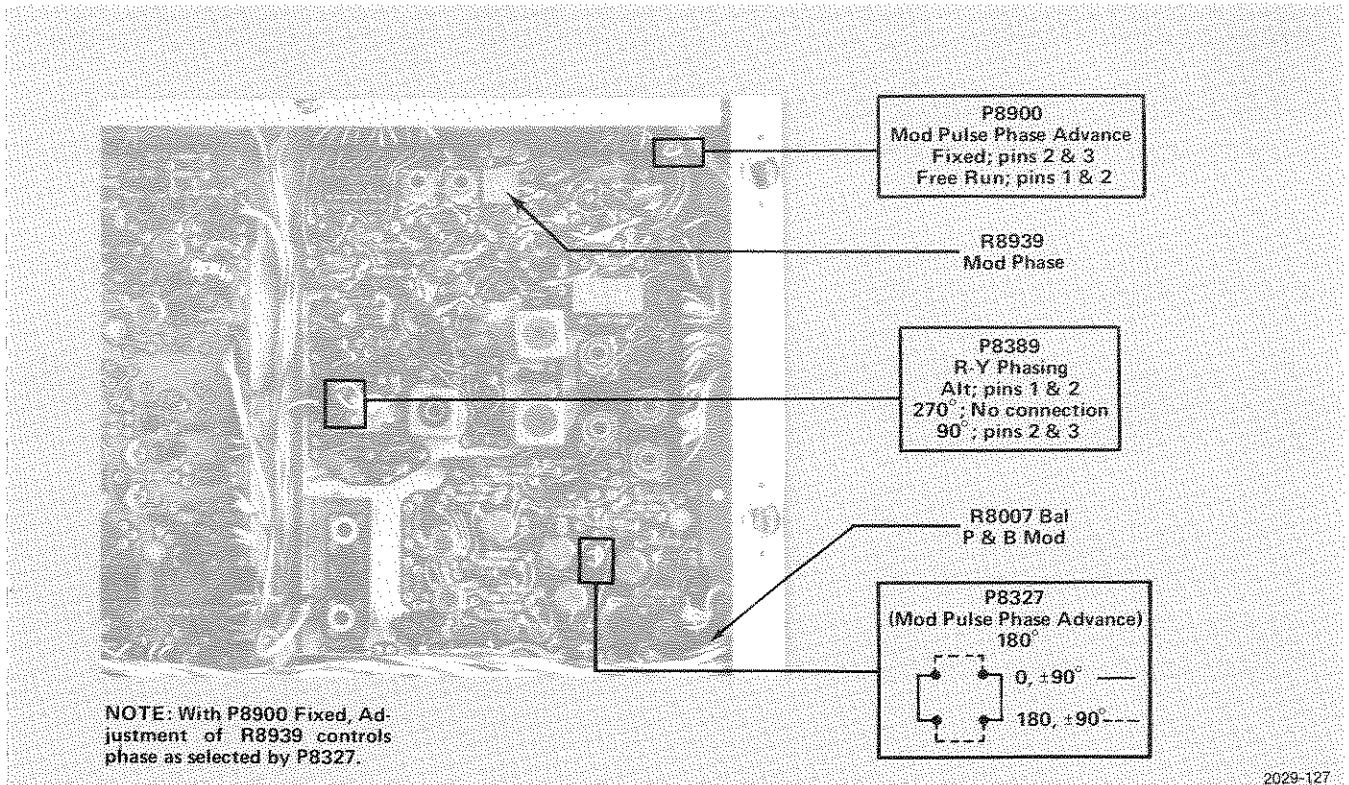
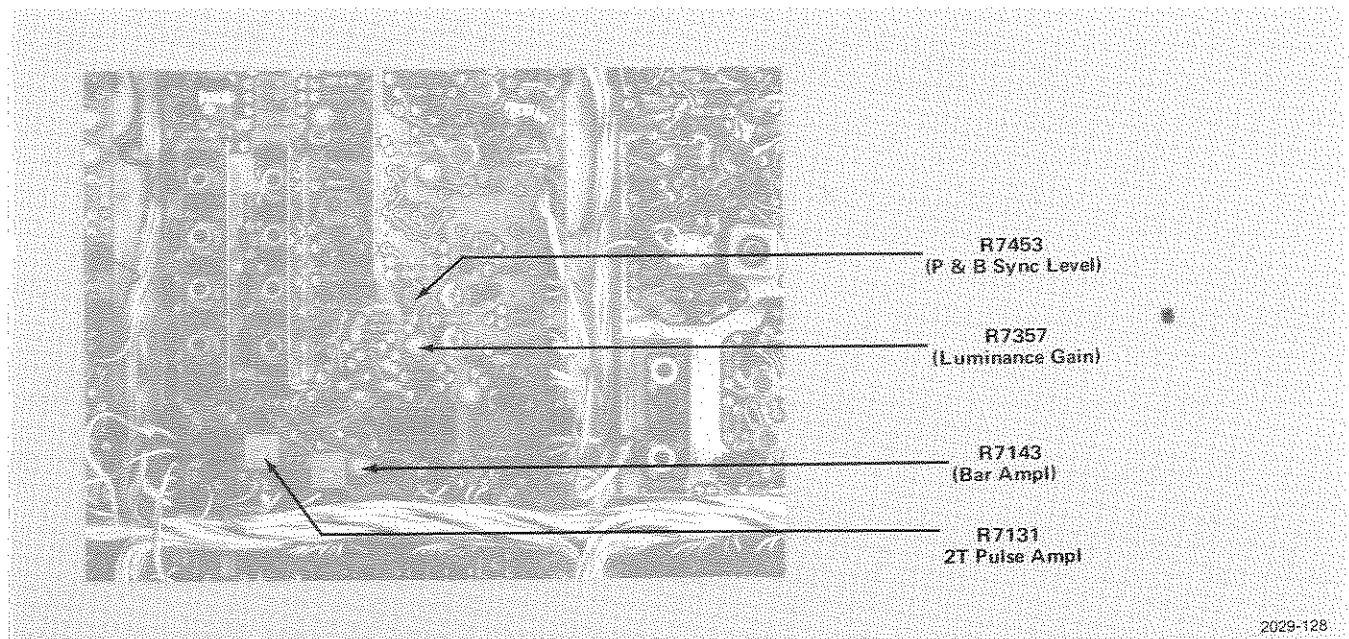

Fig. 1-24. 149A chrominance adjustments.
Fig. 1-25. Output Amplifier circuit board location of adjustments.
2. Adjust R8109 (Sin2 Chroma Gain), see Fig. 1-24, and R7357 (Luminance Gain), see Fig. 1-25, for (1) a peak modulation amplitude of 714 mV (100 IRE) and (2) the best flat bottom on the pulse.
3. Adjust R7453 (P & B Sync Level), see Fig. 1-25, until the horizontal and vertical blanking levels are aligned.
2. Adjust R7131 (2T Pulse Amplitude), see Fig. 1-25, for a peak pulse amplitude of 714 mV (100 IRE).
7. Adjust R8630 (Burst Amplitude), see Fig. 1-25, for a burst amplitude of 285.6 mV (40 IRE) peak-to-peak.
6. Adjust R8109 (Sin2 Chroma Gain), see Fig. 1-24, until the peak of chrominance within the modulated pulse is at 100 IRE and the bottom portion of chrominance within the modulated pulse is flat at 10 IRE.
As factory-connected, the 147A or 149A displays the 2T Pulse. To display the T Pulse in place of the 2T Pulse, (1) change the connector on pins 1 and 2 of P7131 (see Fig. 1-25) to pins 2 and 3, and (2) change the connector on pins 5 and 6 of P7321 to pins 4 and 5.
By changing the connector on pins 1 and 2 of P8900, see Fig. 1-24, to pins 2 and 3, the phase of the Full Field Modulated Sine-Squared Pulse will be fixed. This is shown in Fig. 1-26B.
**Advance 180°.** As discussed above, it is possible to obtain Phase Advance of the Modulated Sine-Squared Pulse during VITS. If needed, the phase can be changed 180° from that obtained with adjustment of R8939 by rotating the connector on P8327 (see Fig. 1-24) 90°. This provides a 360° control range of the VITS phase.
2. Adjust R8007 (P and B Mod Ball), see Fig. 1-24, for minimum modulation on the blanking level.
As factory-connected, the color bar R-Y phase is locked to 90° (normal NTSC operation). For test purposes, the R-Y phase can be locked to 270° by removing the connector on P8389 (see Fig. 1-24). For quadrature-phase testing, the R-Y phase can be alternated between 90° and 270° by connecting pins 1 and 2 of P8389.